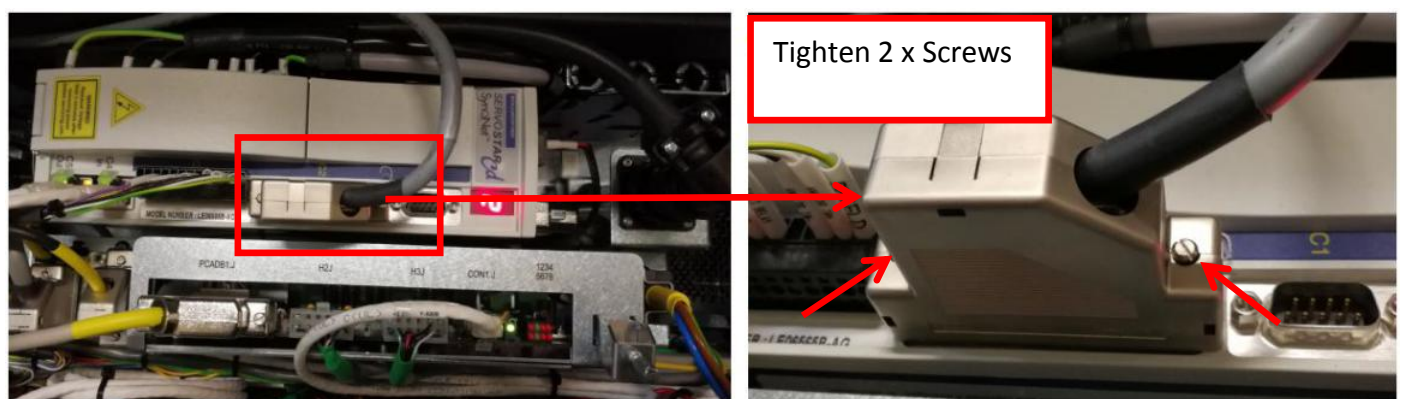

Figure 30
35. Connect Y-Axis Motor Rotary Cable as Figure 30